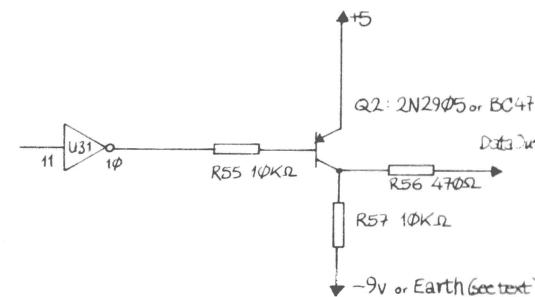
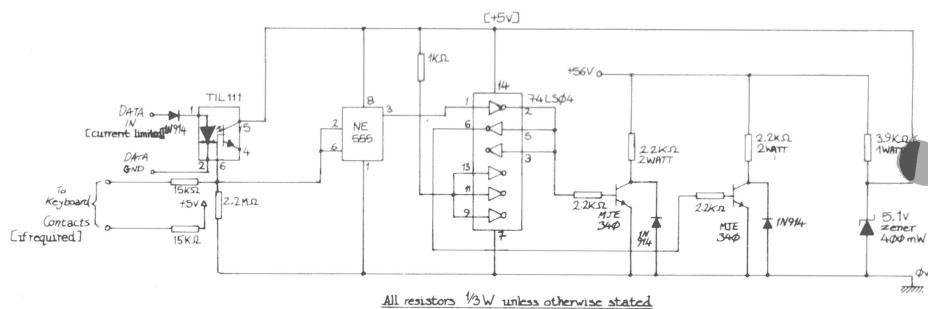
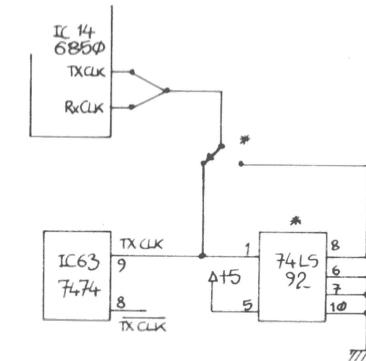
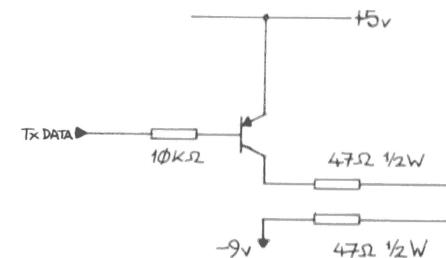

Figure 2: RS-232 interface in computer.
Figure 3: Teleprinter drive circuit.
Figure 4: Suggested modification of baud rate for UK101 and possibly C1/Super-boards.
Figure 8: 20ma interface.
To output the data I implemented the transistor RS-232 interface by installing U31, Q2, R55, R56 and R57 (see Figure 2) and breaking the printed circuit track from pin 2 of U41, otherwise the output of U41 would be in contention with the output from Q2. It may be necessary to generate a -9V supply to R57, but this depends on the teleprinter driver circuitry. With the circuit given in Figure 3, a -9V supply is unnecessary (but acceptable if already fitted), so I connected the -9V rail to earth. Two points worth stating about Figure 3 are firstly the circuit expects the input current to be limited by the source, which in this instance is achieved by R56 in Figure 2; and secondly the opto-isolator on the input may appear to be a bit exotic, but the back-EMF from the teleprinter coil is several hundreds of volts so it is wise to ensure this cannot reach the computer.
C1/Superboard and UK101 users can readily implement their equivalent circuits to Figure 2, however, the cassette clocks for these computers are derived from the video divider chain. For UK101 users I suggest the use of a 7492 (divide-by-2 and divide-by-6) integrated circuit as indicated in Figure 4; however, not having any detailed knowledge of C1/Superboards I cannot make any suggestions, but it is possible that Figure 4 also applies.
- Figure 3. Teleprinter drive circuit.
3. Input current must be limited by source, e.g. R56 in Fig.2.
RS-232 TxData can be implemented in accordance with the user manuals. 80-0-80 can be interfaced using the circuits of *Figures 2 and 3* of the earlier part of this article; however, it may be necessary to increase the supply voltage from 56V to 80V and change the 2.2K 2-watt resistors to 3.3K 3-watt, and the 3.9K 1-watt resistor to 5.6K or 4.7K 2-watt. For a 20mA interface it is tentatively suggested that the circuit of *Figure 8* is tried instead of the RS-232 TxData circuit in the manuals.